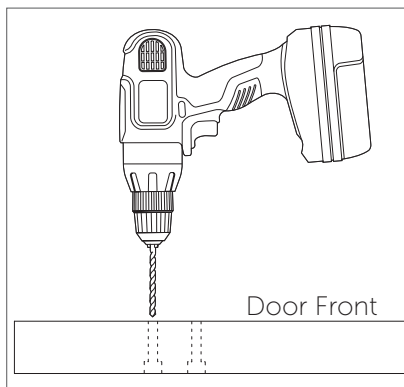

Figure 4
8. Turn the door over, returning it to the face-up position. Drill all the way through the pilot holes using a drill with a 1/2" drill bit (Figure 4).